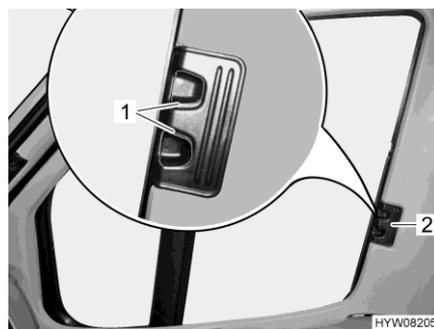

Fig. 25 Roman shade (driver's / front passenger's window)
- Press the release handles (Fig. 25,1) and hold them down.
- Using the handle (Fig. 25,2), draw the Roman shades for the driver's and passenger's window to the other side of the window and secure them to the magnetic strips.
- Use handle (Fig. 25,2) to push in the Roman shades for the driver's and passenger's window as far as possible.
- Let go of the release handles (Fig. 25,1) and let them engage.